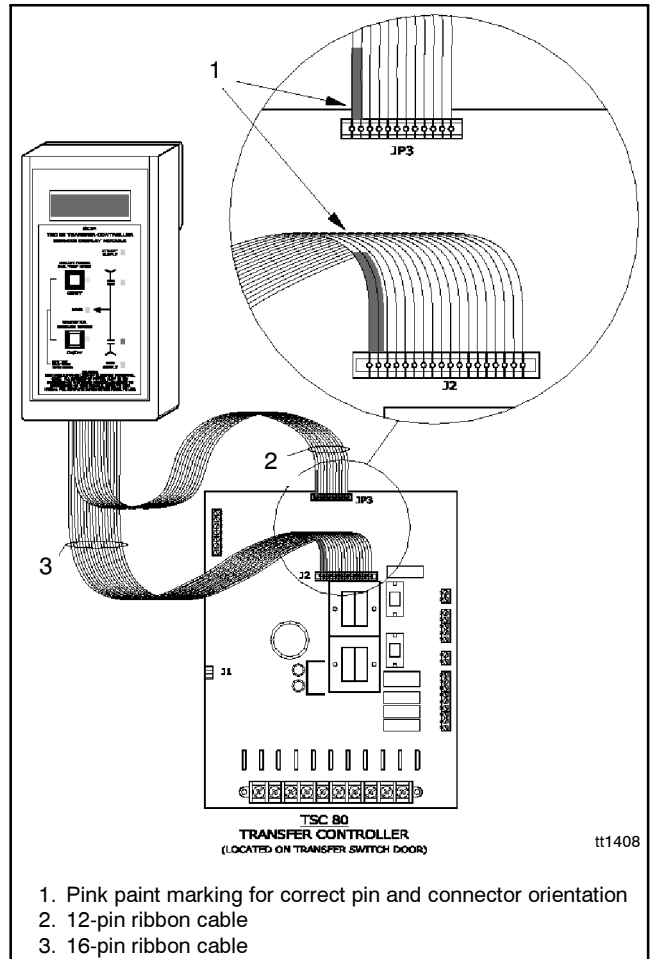

Figure 2 SDM/TSC 80 Interconnection Drawing
7. Disconnect the faceplate interconnection cable to the TSC 80 controller (10-pin connector on JP3). Refer to Figure 2 for the location of JP3.
- a. Connect the 12-pin (small) SDM ribbon cable to TSC 80 connector JP3. Refer to Figure 2 for location of JP3 and correct orientation. The ribbon cable has a *pink* paint marking that must be on the left hand side of the connection pins when viewed from the front of the circuit board.
- b. Connect the 16-pin (large) SDM ribbon cable to TSC 80 connector J2. Refer to Figure 2 for location of J2 and correct orientation. The ribbon cable has a *pink* paint marking that must
3. Disconnect the 12-pin (small) SDM ribbon cable from the TSC 80 connector JP3. Refer to Figure 2 for location of JP3.
5. Disconnect the 16-pin (large) SDM ribbon cable from the TSC 80 connector J2. Refer to Figure 2 for location of J2.
Ribbon cable for 16-pin connector is backwards. Refer to Figure 2 for correct orientation.
Ribbon cable for 12-pin connector is backwards. Refer to Figure 2 for correct orientation.